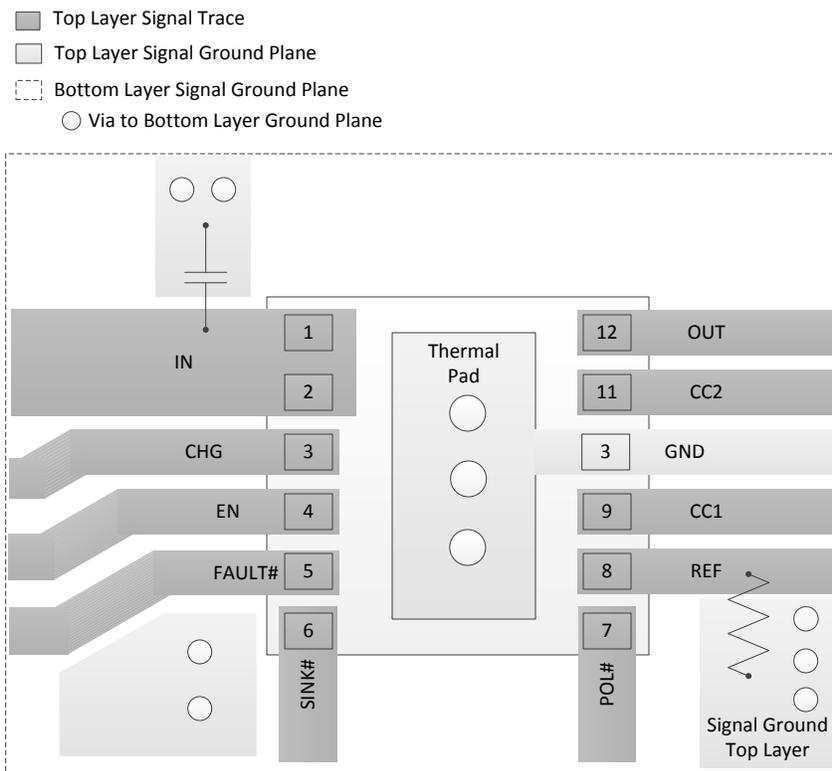

图 22. Layout Example
- Care must be taken to minimize the loop area formed by the bypass-capacitor connection, the IN pin, and the GND pin of the IC. See Figure 22 for a PCB layout example.